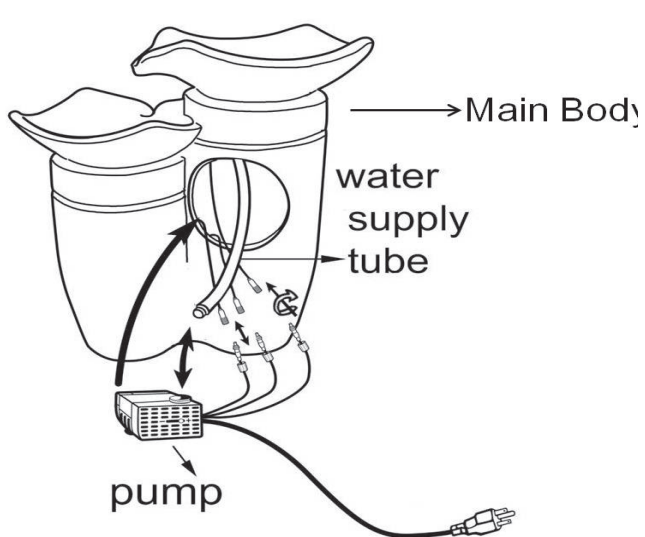
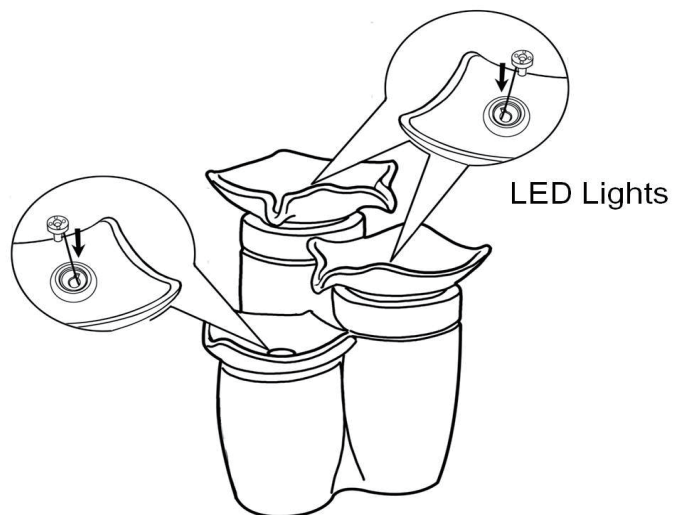

Fig.1
Fig.2
3. Place the main body on a flat, level surface. From the opening at the back of the fountain, insert the water supply tube into the pump outlet on the top of the pump and connect the LED lights with the light cable separately. Then please place the pump upright into the basin(Fig. 1& Fig.2)
6. The LED lights were pre-assembled, but they are replaceable. When replace them ,please refer to Fig.1.